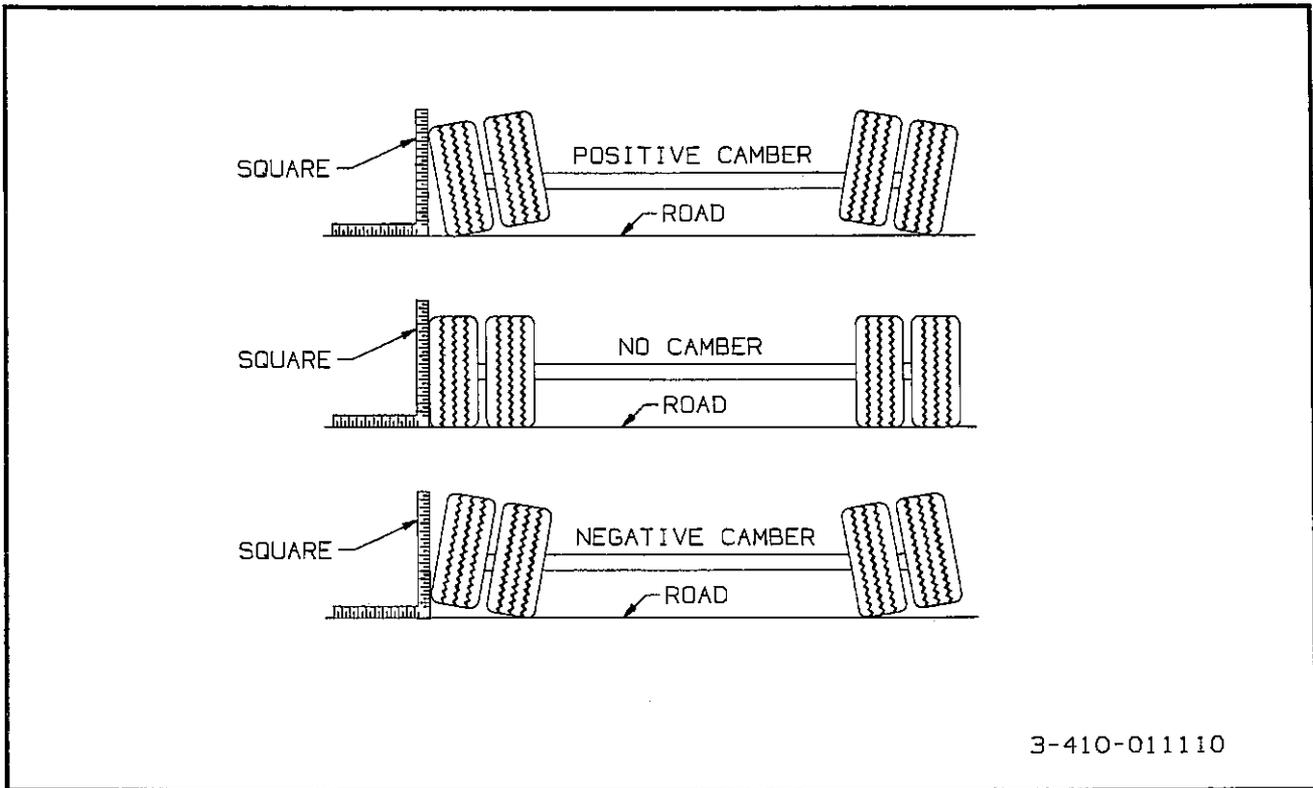

Figure 6-8 Examples of Camber
**6-15.4** Follow the same procedures as in Paragraph 6-16.4 and 6-16.5, except place the axle gauge above and below the axle. If gauge point gap is found, the axle has positive or negative camber. The semitrailer axle has no camber from the factory, thus if it is found to have positive or negative camber, axle replacement is necessary (see Figure 6-8 for examples of camber).